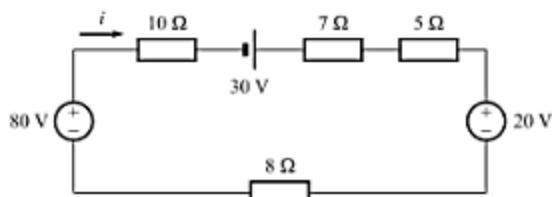

Fig. A-58
- A-9. Determine the current *i* and the power delivered by the 80-V source in the circuit of Fig. A-58. [Ans. 3 A , 240 W]